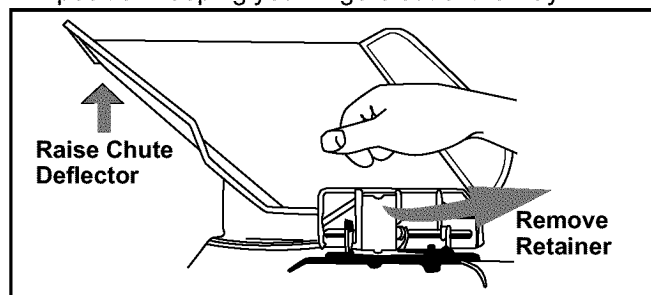

Figure 6
- Push the chute deflector up and towards the engine. Holding the deflector in this position, remove the retainer. See Figure 6.